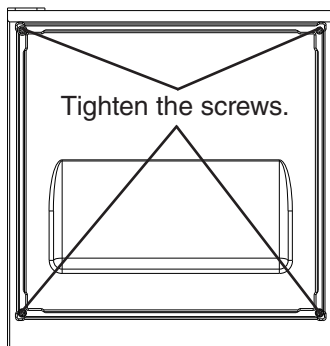

Fig. 26
- 7) Tighten the four M4×25 pan head screws installed in step 5. See Fig. 26.